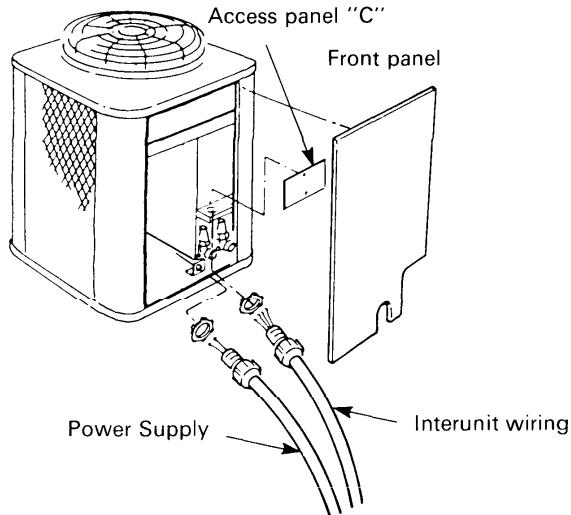

Fig. 7
- a) Remove access panel "C" and punch knockout holes on the panel. Fig. 7